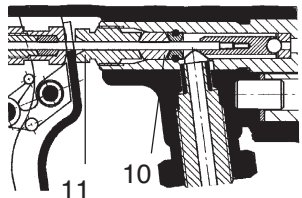

Figure 10
1. If there is evidence of material leakage past the front seal (10) lightly tighten the packing nut (11) with the universal wrench. Figure 10.